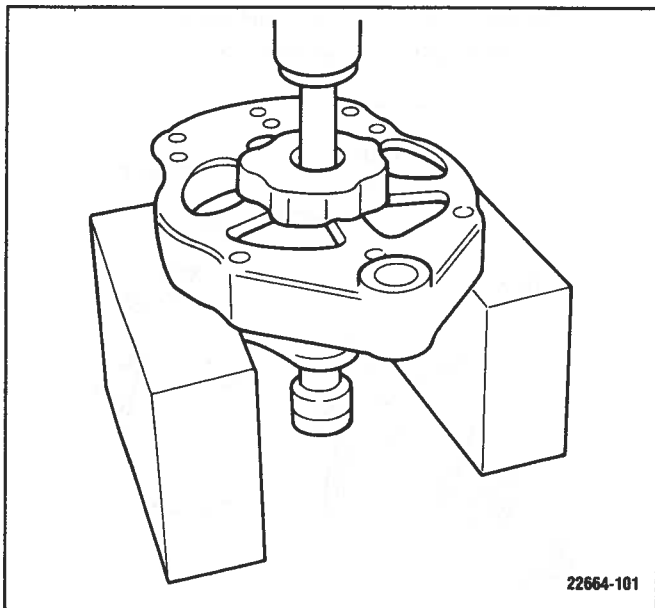

Figure 6-127. Rotor Removal
14. Carefully push the rotor assembly out of the front housing and rear housing. (Figure 6-127)